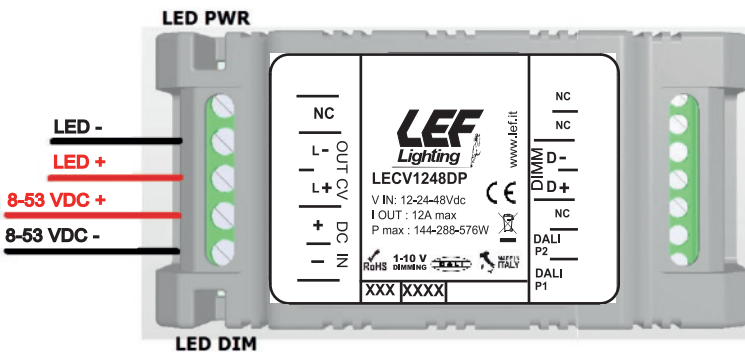

Fig.1
- The dimmer LECV1248DP must be supplied according to the polarity shown in Fig.1 through terminals DC IN (+ and -).